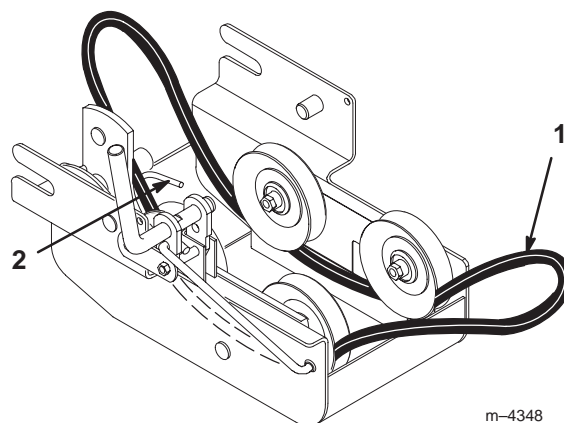

Figure 45
1. Route the new snowthrower belt under the pulleys and inside the belt guide (Fig. 45).